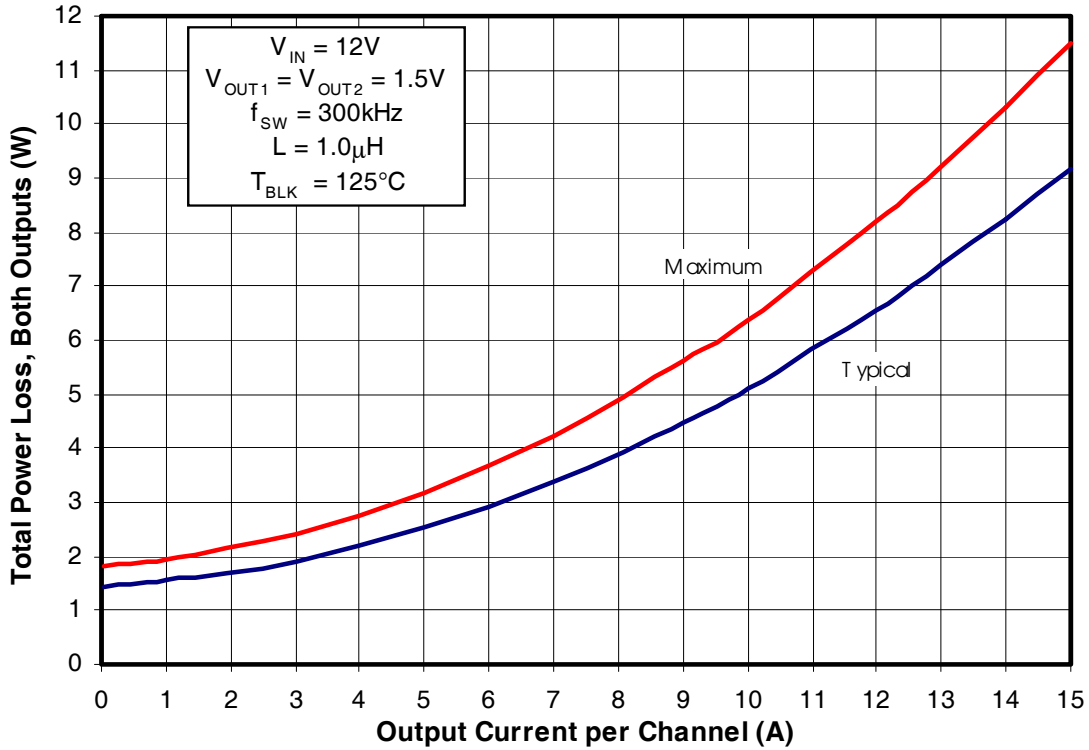
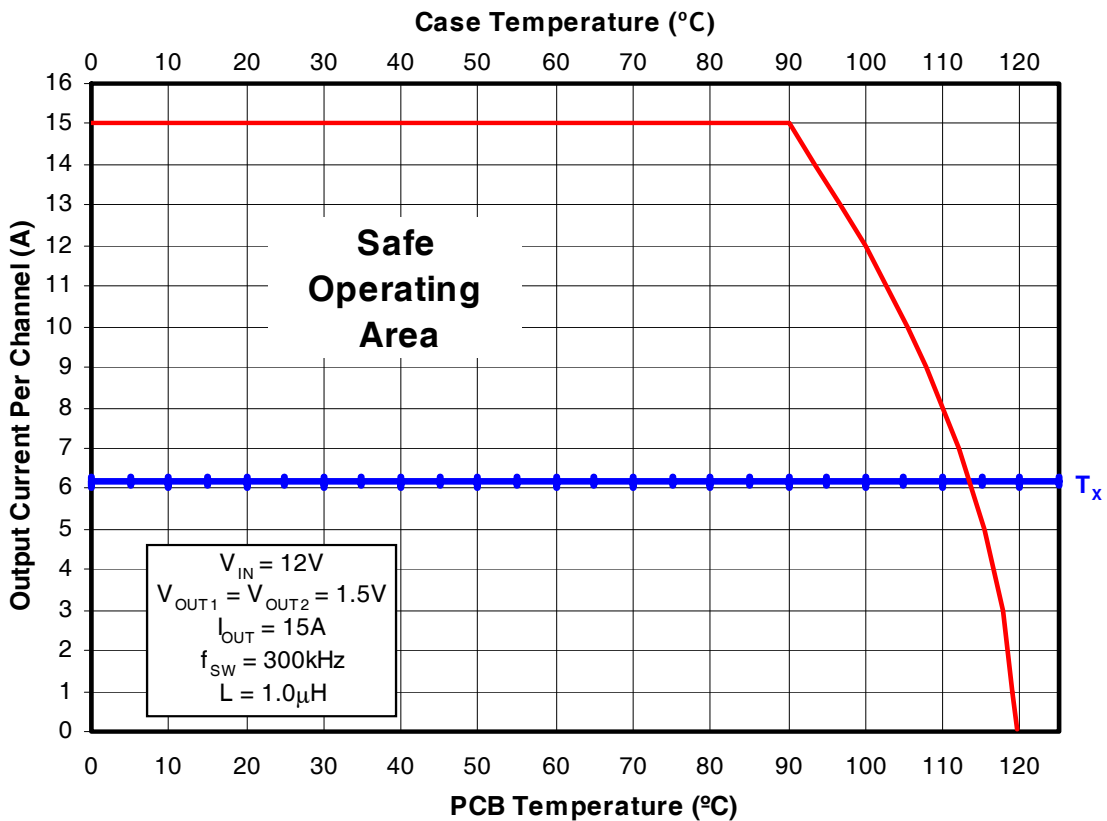
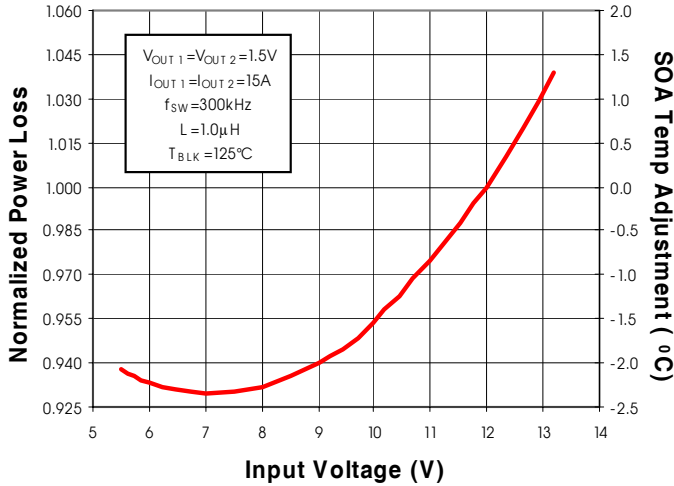

Fig. 2: Power Loss vs. Current
Fig. 3: Safe Operating Area (SOA) vs. T_{PCB} & T_{CASE}
Fig. 4: Normalized Power Loss vs. V_{IN}
To make adjustments to the power loss curves in Fig. 2, multiply the normalized value obtained from the curves in Figs. 4, 5, 6 or 7 by the value indicated on the power loss curve in Fig. 2. Remember that the power loss in Fig 2. is the power loss for 2 outputs operating with the same output voltage. If differing output voltages are used the initial power loss for each channel needs to be divided by 2. Then if multiple adjustments are required, multiply all of the normalized values together, then multiply that product by the value indicated on the power loss curve in Fig. 2. The resulting product is the final power loss based on all factors. See example no. 1.
To make adjustments to the SOA curve in Fig. 3, determine your maximum PCB Temp & Case Temp at the maximum operating current of each iP1202. Then, add the correction temperature from the normalized curves in Figs. 4, 5, 6 or 7 to the T_x axis intercept (see procedure no. 2 above) in Fig. 3. When multiple adjustments are required, add all of the temperatures together, then add the sum to the T_x axis intercept in Fig. 3. See example no. 2.
- Output1 (Fig. 2) Maximum power loss = W 8.25/2 = 4.125W
(Fig. 4) Normalized power loss for input voltage \approx 0.93
- Output2 (Fig. 2) Maximum power loss = $6.4W / 2 = 3.2W$
- (Fig. 4) Normalized power loss for input voltage ≈ 0.93
- Output1 (Fig. 4) Normalized SOA Temperature for input voltage $\approx -2.3^{\circ}C$
- Output2 (Fig. 4) Normalized SOA Temperature for input voltage $\approx -2.3^{\circ}C$